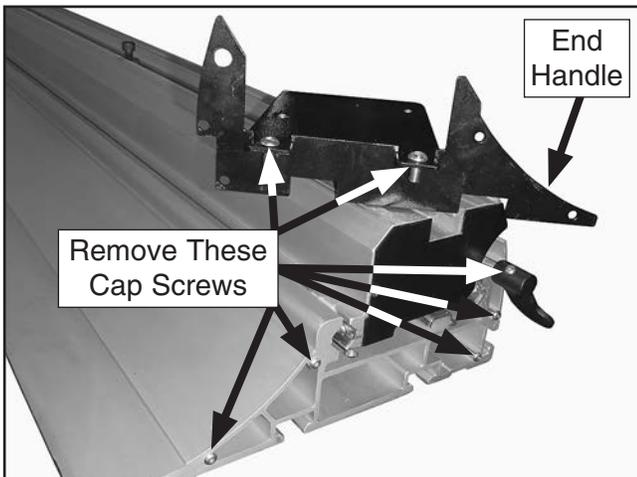

Figure 18. Cap screws to remove for end handle installation.
9. Remove the four cap screws threaded into the end of the sliding table assembly, the cap screw securing the lock handle, and the two cap screws pre-installed in the end handle (see **Figure 18**).